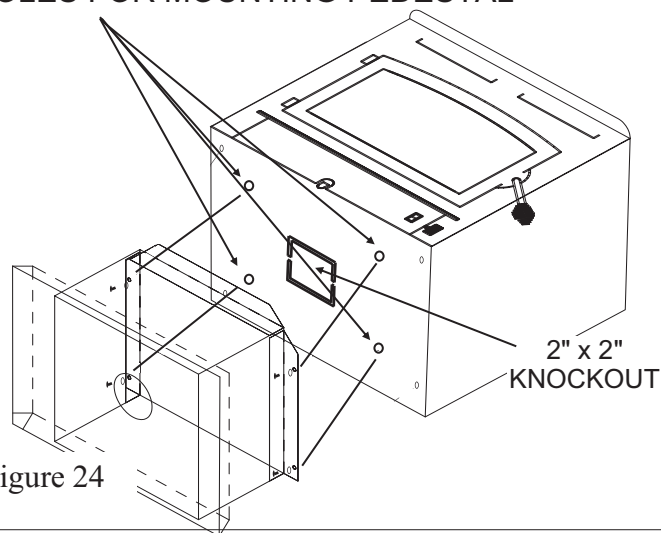

Figure 24
6. **(Pedestal Kit):** If pedestal kit is being used and out side air is required see below, *Out Side Air Installation*. Open freestanding kit and obtain stand. Place stand against bottom of heater (angle side to heater). Center stand front to back and also center stand left and right. Mark screw locations on bottom of stove through outer holes of stand mounting angles. Set stand aside and drill four 7/32" holes in heater bottom. Before attaching heater to the stand, take a large flat screwdriver or pliers and remove 2" x 2" knockout on bottom of unit. (See Figure 24).
7. Obtain four (4) 3/16" self-tapping screws and secure stand to heater. (See Figure 24).